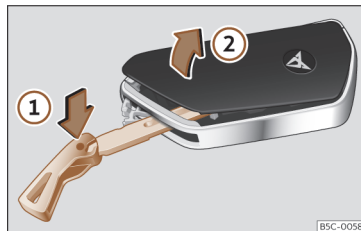

Fig. 58 Vehicle key: opening the battery compartment cover.
- Insert the key blade into the slot >>> Fig. 58, press it in the direction of arrow ① and detach the cover by levering it ②.